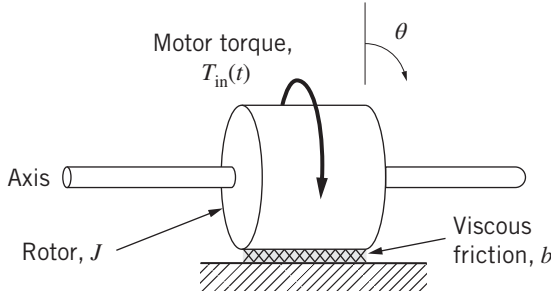

Figure P8.7
8.7 Figure P8.7 shows a simple 1-DOF rotational mechanical system with input torque $T_{in}(t)$. The Laplace transform of the angular velocity $\omega(t)$ of the rotational mechanical system is